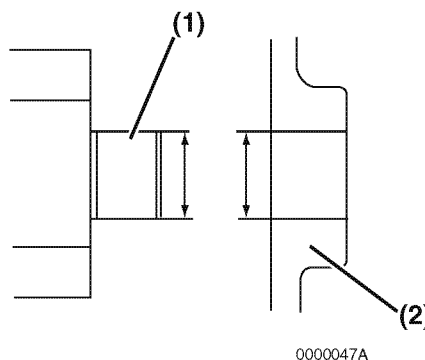

Figure 9-9
Determine the rotor shaft clearance. Measure the outside diameter of the rotor shaft **(Figure 9-9, (1))** and the bore diameter in the gear case housing **(Figure 9-9, (2))**.